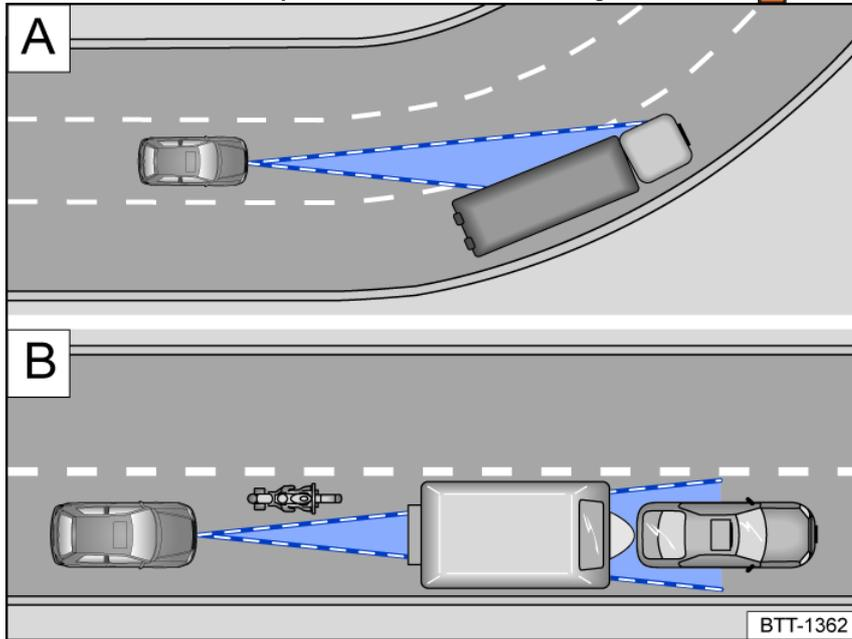

Fig. 129 A Driving around curves. B Vehicles outside of the radar sensor range.
The radar sensor only measures straight ahead. Therefore, on tight curves, vehicles may be detected by mistake or vehicles driving ahead may not be detected fig. 129 A.
- If there are vehicles that are driving close to your vehicle but outside the sensor range, such as motorcycles fig. 129 B.